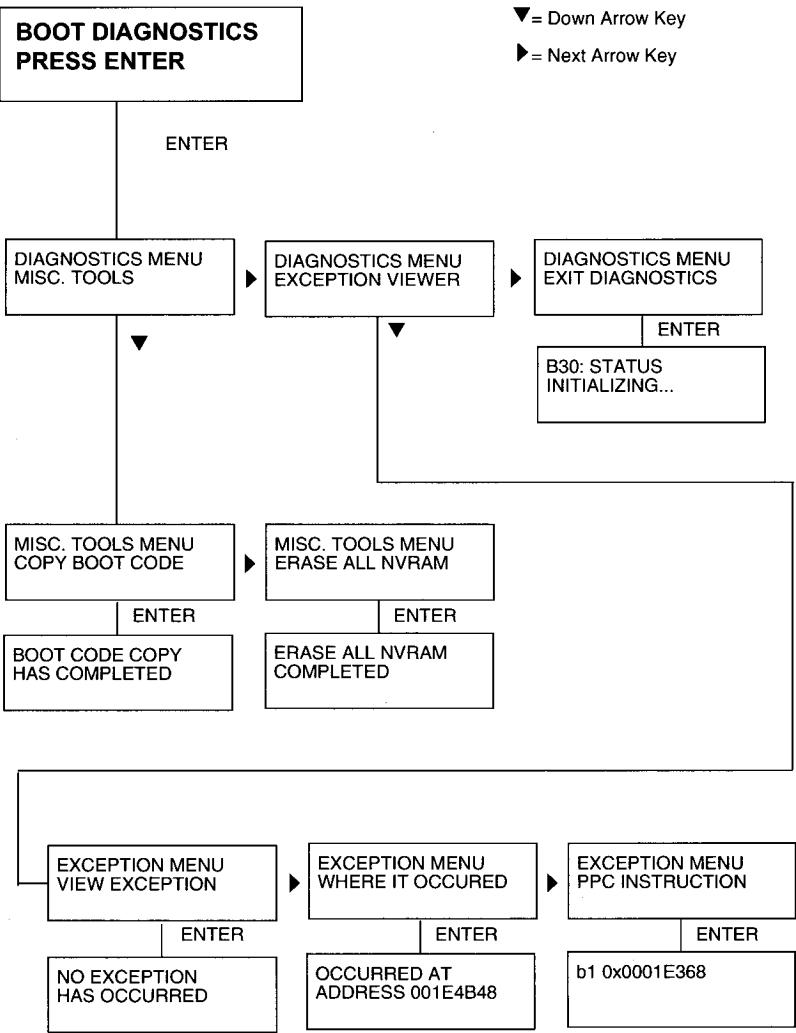

Figure 11. Boot Diagnostics Menu
The boot diagnostics menu is a multi-level menu that operates the same way as the user menus. The menu structure is shown in Figure 11 on page 164.
4. When “BOOT DIAGNOSTICS / PRESS ENTER” appears on the LCD, release the ◀ + ▼ keys and press the **ENTER** key repeatedly until the printer enters the menu. (may take 10 or more presses for this to occur). Menu options are shown in Figure 11.